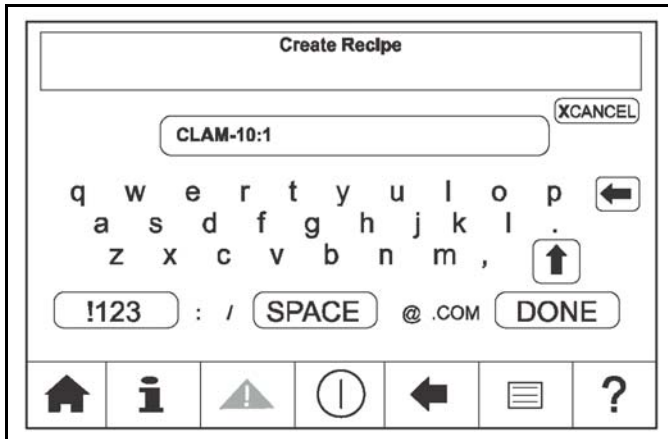

Figure-78
16. Type the name of your new recipe. (The Back Arrow key is used as a backspace key.) Select DONE when complete. See Figure-78.